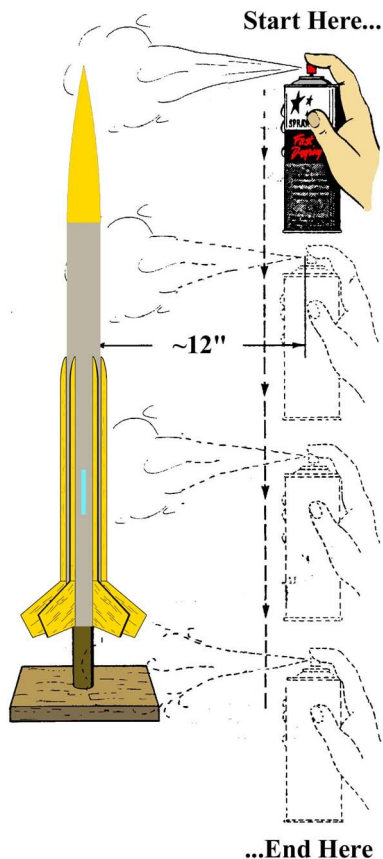

Figure 7
- **Step 15** Figure 7 shows the correct method of spraying primer, paint, and the final gloss coats, regardless of the equipment used. Always spray from the top-down -- never from the bottom-up, or from side-to-side -- to avoid runs and other spraying imperfections.